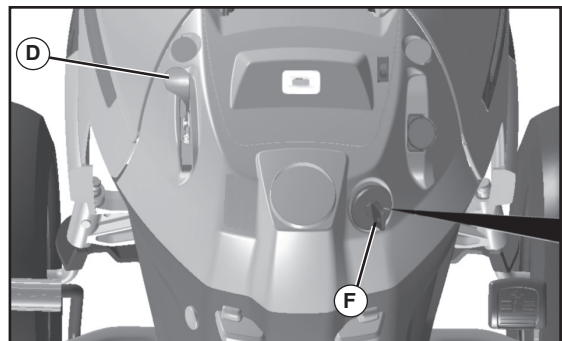

Fig. 18
TO USE THROTTLE CONTROL (D) (See Fig. 18)
TO USE CRUISE CONTROL (J) (See Fig. 18)